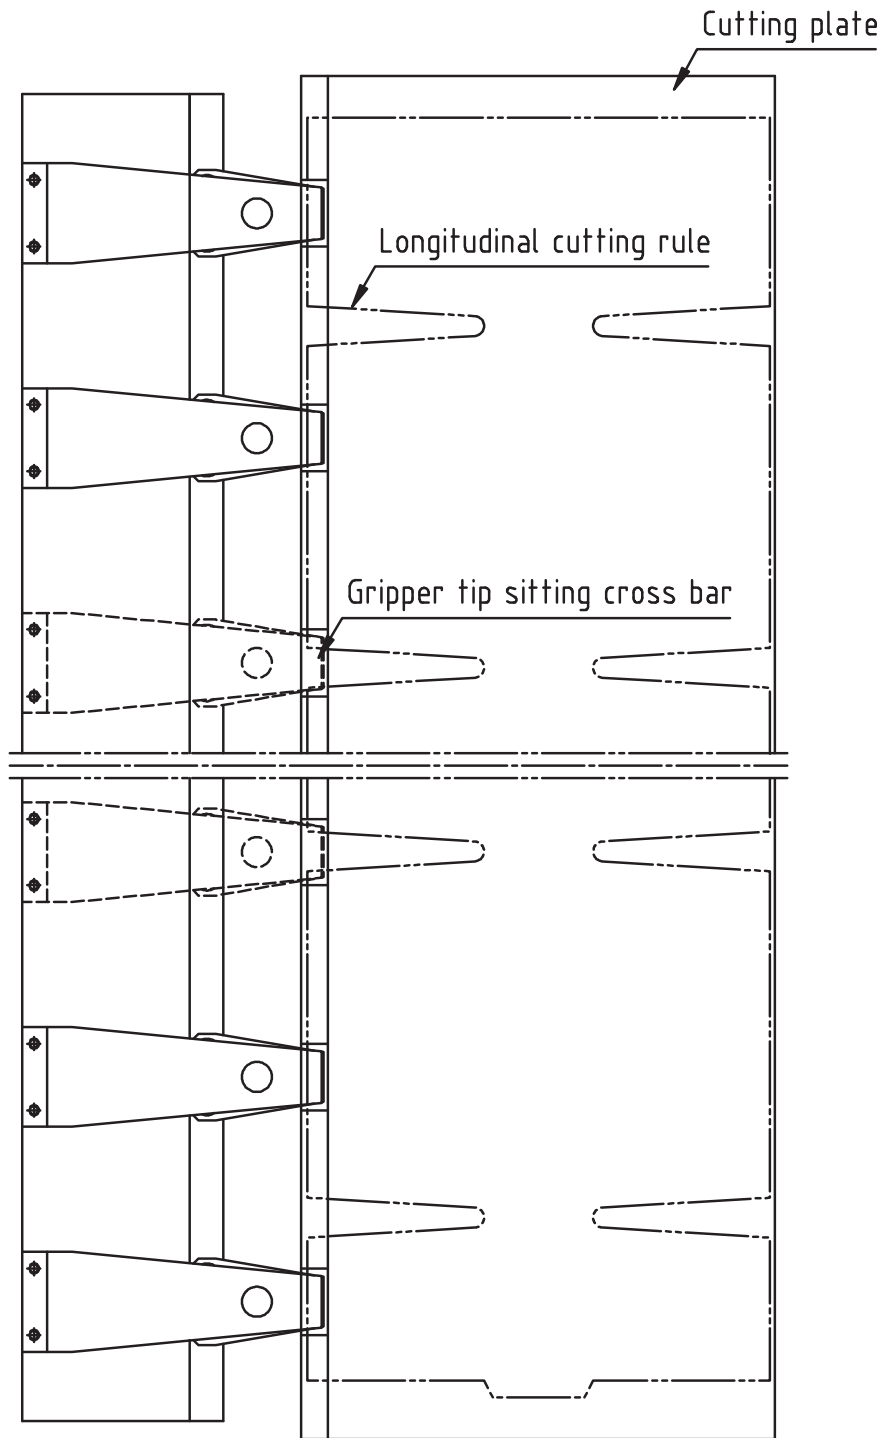

Fig 6.22
- 2) Remove the up gripper springs and gripper seats off the gripper bars to where the cutting knife will locate and to fit gripper tip filler PB20312 to the notch. (Fig 6.22)